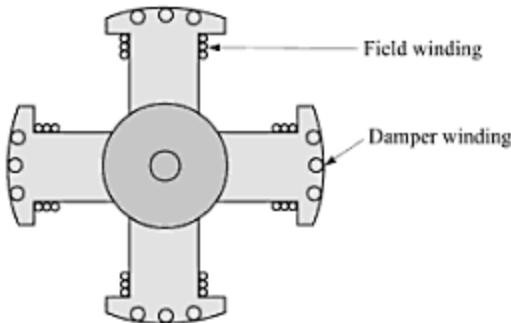

Fig. 14.23 Damper winding placed on the pole faces of a synchronous motor.
(1) Starting by Using Damper Winding As shown in Fig. 14.23, bars of copper, aluminium or bronze are inserted in slots on the pole faces. These bars are short-circuited by end-rings on each side of the poles. These shorted turns work like a squirrel cage rotor of an induction motor** and develop torque.
For smooth operation of a synchronous motor, the mechanical speed of the rotor should remain in synchronism with the rotating magnetic field of the stator. Any departure from this equilibrium condition produces forces that tend to bring the rotor back to its equilibrium position. As a result, whenever a departure takes place the rotor slightly oscillates about its equilibrium position. This is called **hunting** of the motor. The hunting may occur due to sudden changes in mechanical load or in excitation current. We can reduce hunting of the motor by using fly-wheels or by providing *damper windings* on the rotor pole faces, as shown in Fig. 14.23.